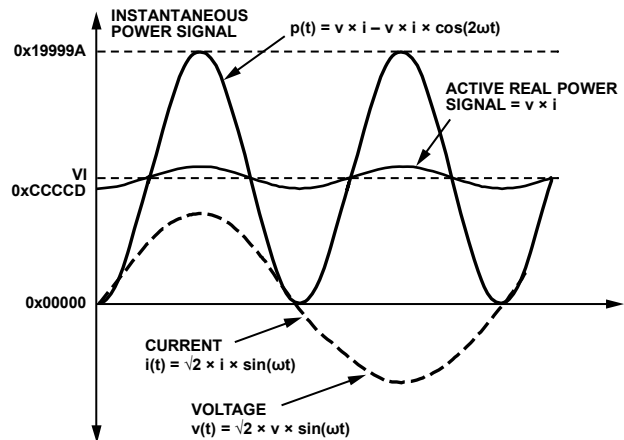

Figure 50. Active Power Calculation
Note that the active power is equal to the dc component of the instantaneous power signal  $p(t)$  in Equation 11, that is,  $VI$ . This is the relationship used to calculate active power in the ADE7566/ADE7569. The instantaneous power signal  $p(t)$  is generated by multiplying the current and voltage signals. The dc component of the instantaneous power signal is then extracted by LPF2 (low-pass filter) to obtain the active power information. This process is illustrated in Figure 50.
The ADE7566/ADE7569 also incorporate an active power offset register (WATTOS[15:0]). It is a signed, twos complement, 16-bit register that can be used to remove offsets in the active power calculation (see Figure 50). An offset can exist in the power calculation due to crosstalk between channels on the PCB or in the IC itself. The offset calibration allows the contents of the
As mentioned in the Active Energy Calculation section, the discrete time sample period (T) for the accumulation register is 1.22 μs (5/CLKIN). With full-scale sinusoidal signals on the analog inputs and the WGAIN register set to 0x000, the average word value from each LPF2 is 0xCCCCD (see Figure 50). The maximum positive value that can be stored in the internal 49-bit register is 248 (or 0xFFFF,FFFF,FFF) before it overflows. The integration time under these conditions when WDIV = 0 is calculated in the following equation: